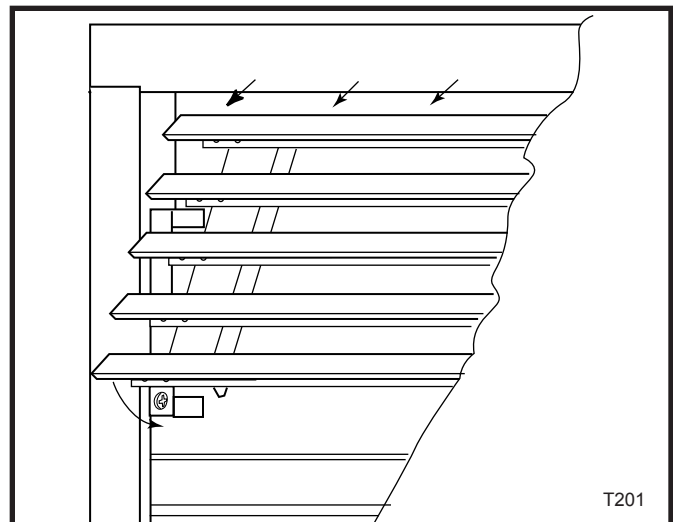

Fig. 30 Hook first or second louvre blade (depending on fireplace model) onto top tabs of louvre brackets.
1. To install the upper louvre assembly, the first louvre blade from the top on each louvre assembly will hook onto the top tabs of the louvre brackets. (Fig. 30)
1. To install the upper louvre assembly, the second louvre blade from the top on each louvre assembly will hook onto the top tabs of the louvre bracket. (Fig. 30)